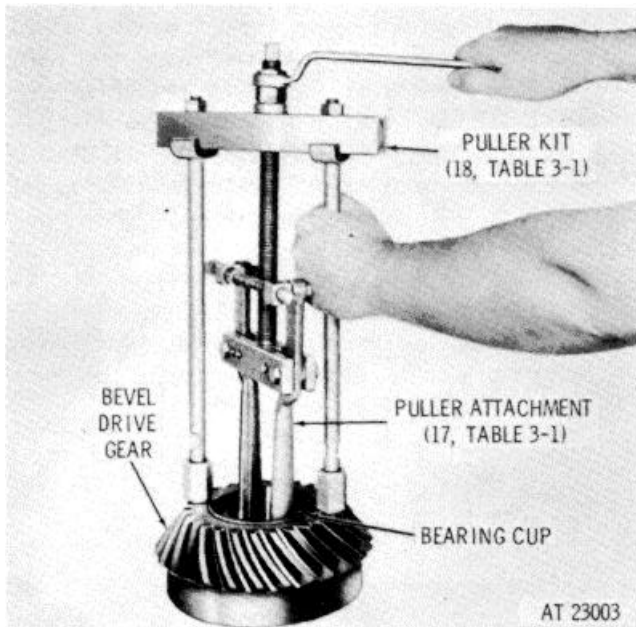

Figure 7-22. Removing bevel drive gear rear bearing outer race.
h. Do not remove inner race of bearing assembly (35, FO-5) from bevel pinion carrier (32) unless replacement is necessary. If replacement is necessary, use a drill rod in the removal holes provided in the bevel pinion carrier and press or drive out the bearing inner race.
i. Do not remove outer race of bearing assembly (35) from bevel drive gear (44) unless replacement is necessary.
j. If replacement is necessary, use puller kit (18, table 3-1) and puller attachment (17, table 3-1) to remove the bearing race from the bevel drive gear (fig. 7-22).